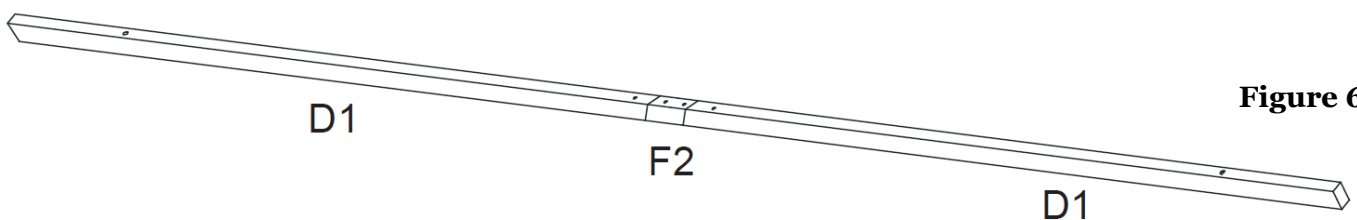

Figure 6-3
Step 6C: Repeat for all Inside Lintels (D1). **Tighten Bolts.** See Figure 6-3.